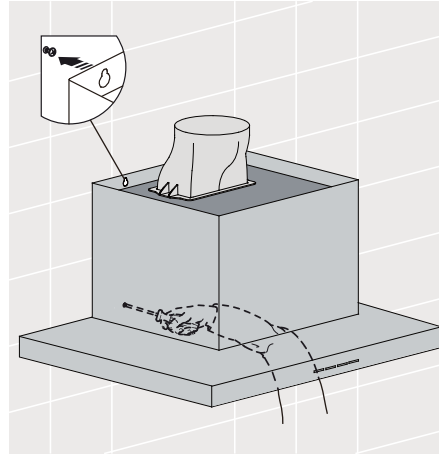

Fig. 9
5. Hang the body hood on the mounting screws then secure at the anti-tilt locations as indicated in Fig 9